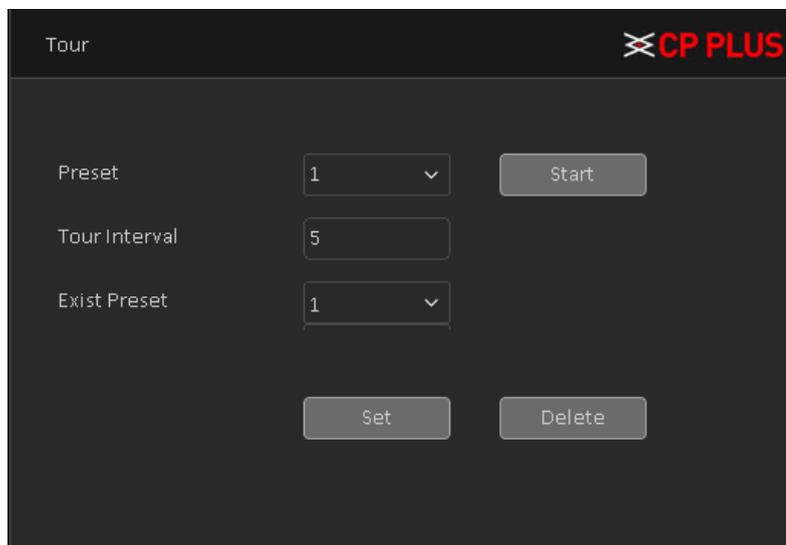

Figure 3.27
- Click on button to add selected preset in tour. It will show in Exist Preset, See Figure 3.27